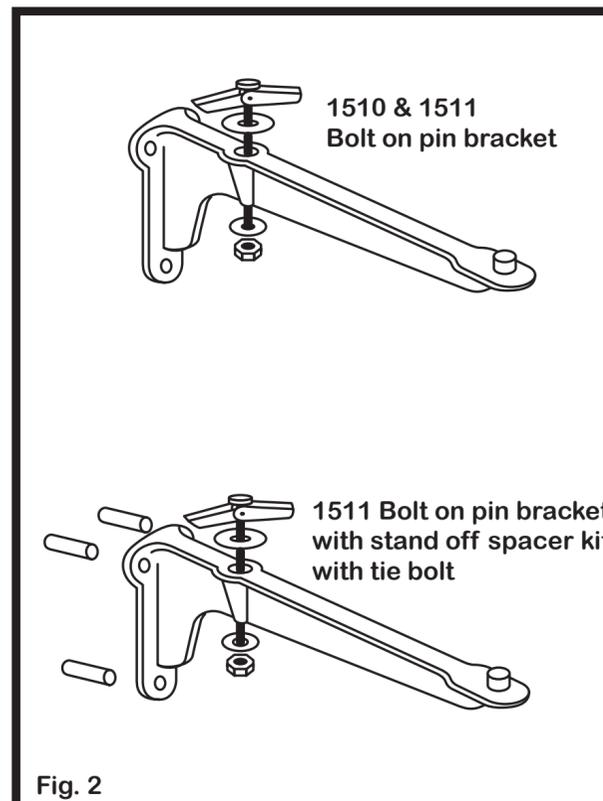

Fig. 2
- Fit the toggle in reverse onto the bolts and fit rubber washers. Insert the bolts through the mounting holes in the brackets and fit washers and nuts. (as detailed in Figure 2.)